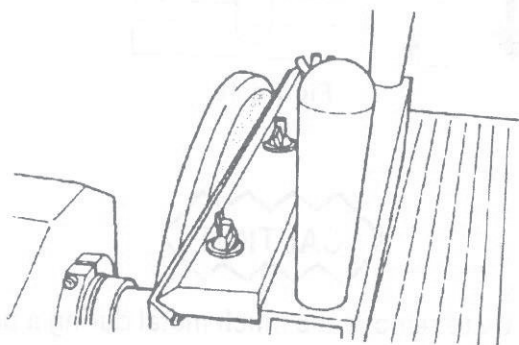

Figure 13
6. Set the Knife Sharpener on the extension table next to the Conical Sanding Disc, as shown in Figure 13. Then readjust the height of the table so the Knife Sharpener's top edge is 1" from the top of the abrasive surface. When the proper height is reached, securely tighten the carriage set-screws that secure the extension table.